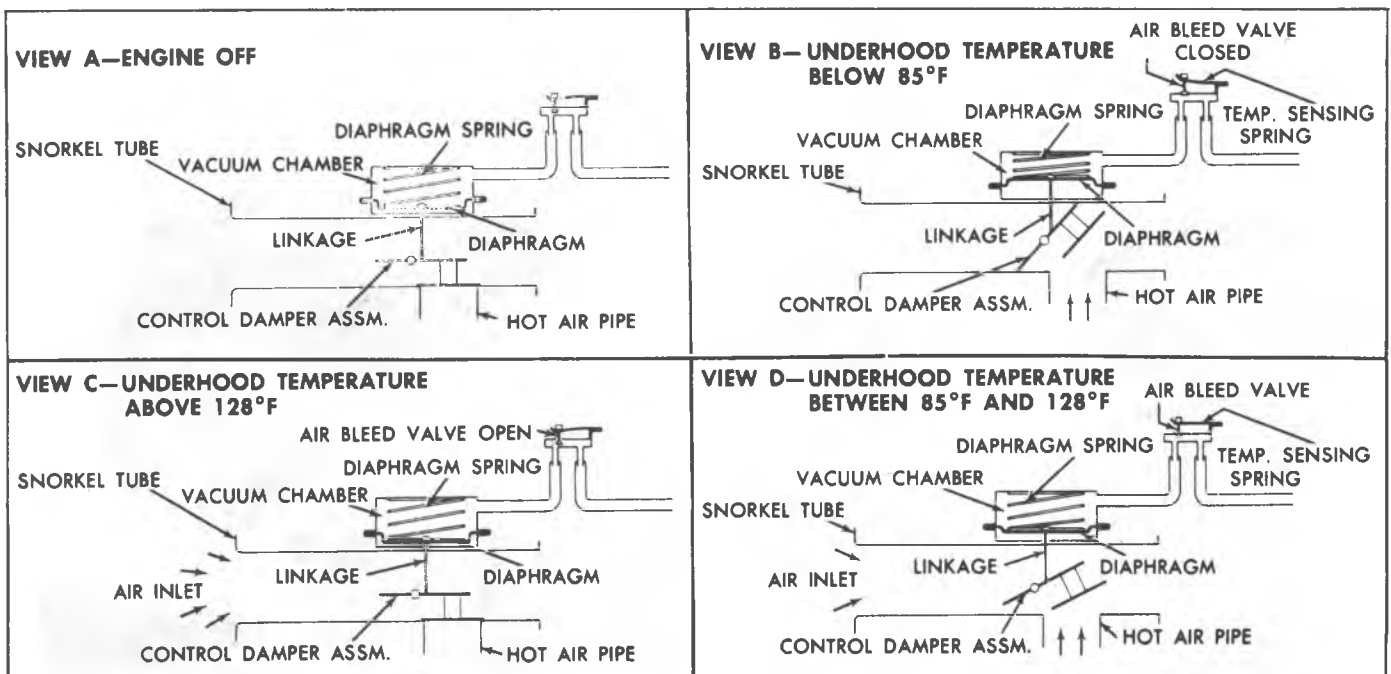

Fig. 9C—Air Cleaner Operation
The air cleaner has an automatic air inlet temperature control device. Air temperature is automatically controlled by a thermostatic valve which selects warmed air from the heat stove and/or cooler air from the engine compartment or outside air inlet on some vehicles (Fig. 9C).
3. Start and idle engine. With air temperature below 85°F, snorkel passage should be closed. (fig. 9C view B) When damper door begins to open snorkel passage, remove air cleaner cover and observe thermometer reading. It should be between 85°F and 115°F.